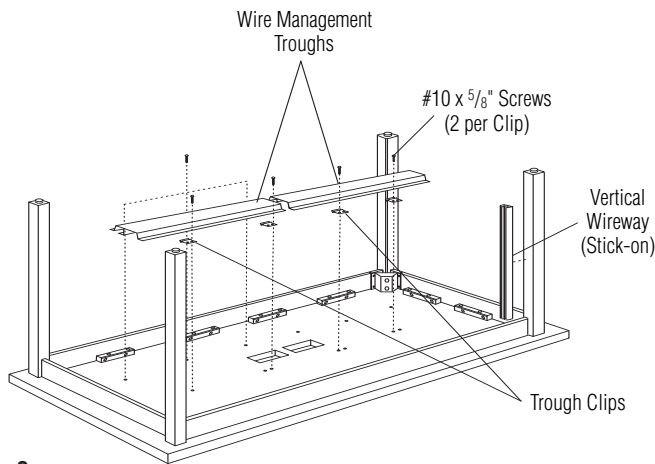

Figure 2
1. Attach the standard plastic, self-adhesive, vertical wire manager to the inside of the leg closest to the power source (Figure 2). Place any electrical cords inside the vertical wire manager.
2. From the underside of the worksurface, position and secure trough to the worksurface with #10 x $\frac{5}{8}$ " screws (Figure 2). Do not over tighten screws. Position trough clips and secure with two #10 x $\frac{5}{8}$ " screws per clip.